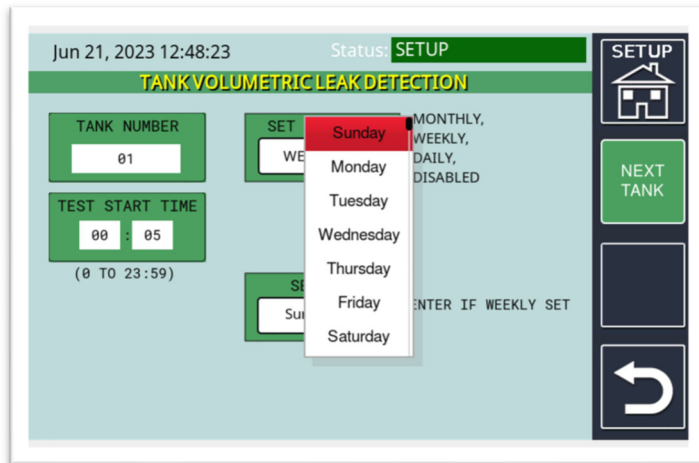

Figure 23.4
- e) When the SET INTERVAL is WEEKLY, Set Day selectable dropdown (▼) options are the days of the week. (See Figure 23.4)